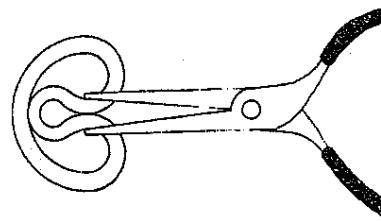

Figure E-5. Rod Seal Installation
6. Position the head with the rod wiper pocket up. Grasp the dynamic rod seal with the needle-nose pliers (Figure E-5).